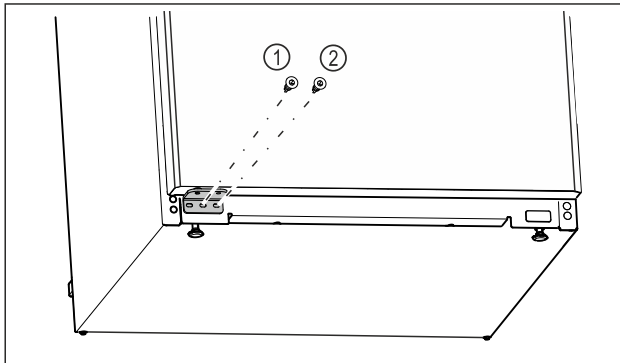

Fig. 21
- ▶ Tighten the middle screw of the swap bearing block Fig. 21 (1) with a Torx 20 screwdriver.
- ▶ Tighten the inner screw of the swap bearing block Fig. 21 (2) with a Torx 20 screwdriver.